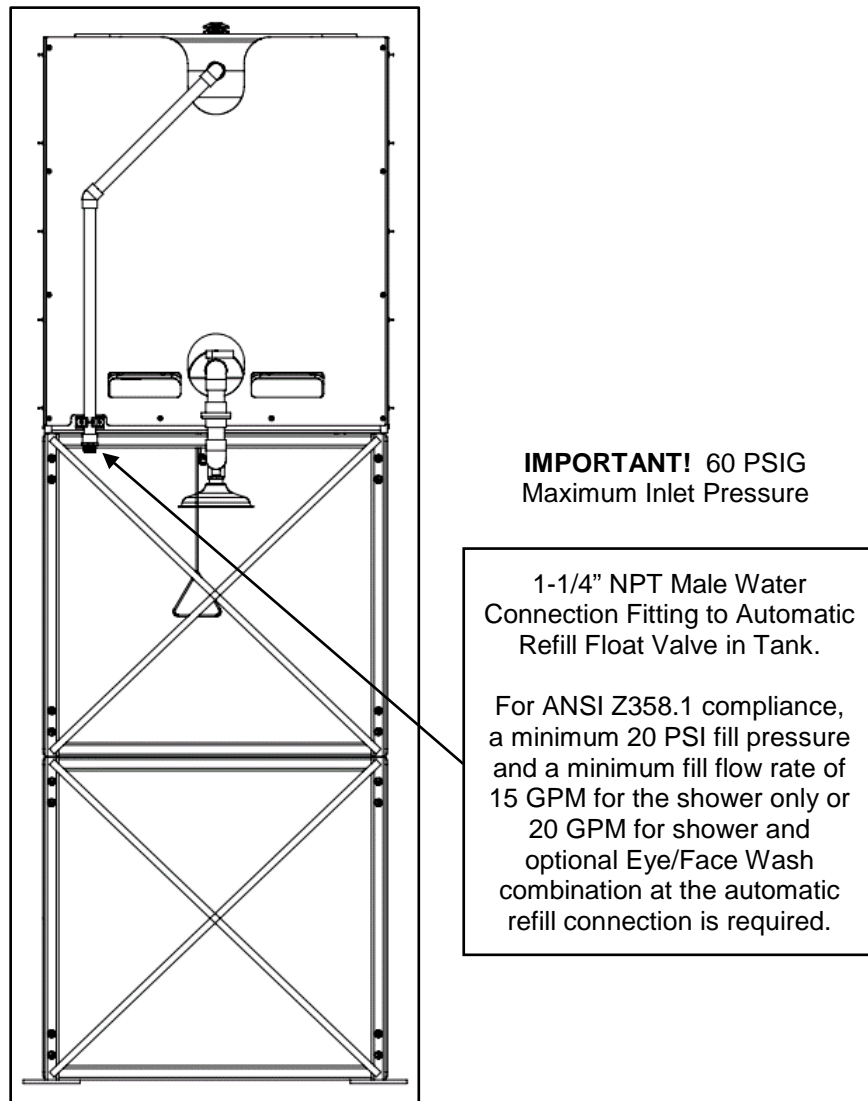

Figure 31. Model 8740 Automatic Refill Port Location on Back of Unit
The Model 8740 is equipped with a 1-1/4" male NPT fitting (Figure 31) on the fill pipe located on the back of the unit. This pipe should be connected to a permanent potable water source. To meet the ANSI Z358.1 standard for flow and duration, the unit requires a minimum fill pressure of 20 PSI and a minimum fill flow rate of 15 GPM for the shower only or 20 GPM for shower and optional Eye/Face Wash combination at the automatic refill connection. Pressure should not exceed 60 PSIG. Use a pressure reducing device if necessary.
1. Connect a suitable source of potable water to the inlet connection on the back of the unit as shown in Figure 31.